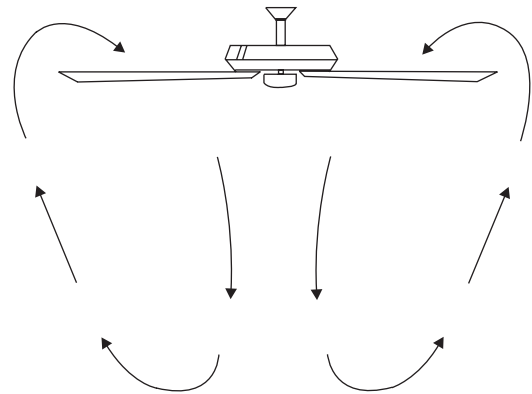

Figure 21
**Warm weather - (Forward)** A downward airflow creates a cooling effect as shown in Fig. 21. This allows you to set your air conditioner on a warmer setting without affecting your comfort.